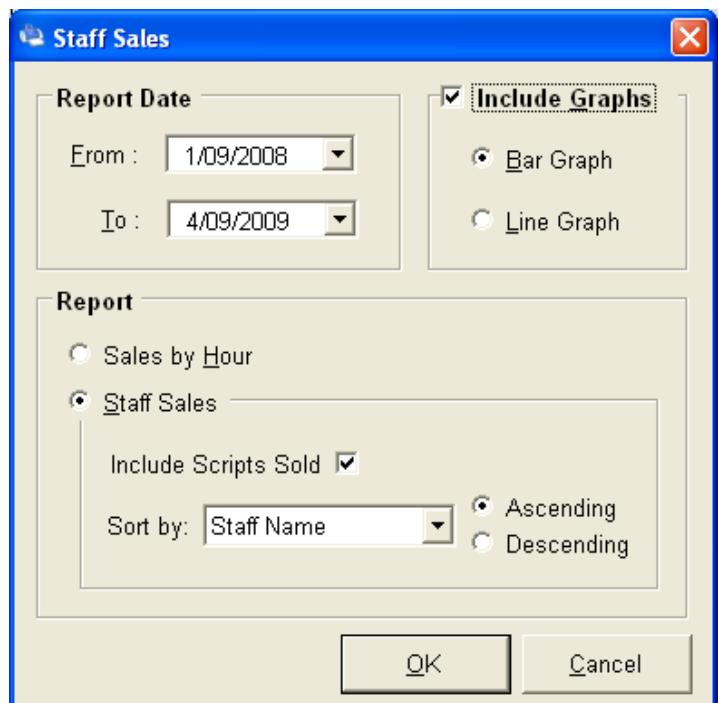

Figure 354
2. This will display the 'Hourly Sales' window (see Figure 354).
- **Sort by** – You can now choose how you wish the report to be sorted. This option allows you to select one of seven fields to sort by as well as allowing the report to be sorted in 'Ascending' or 'Descending' order. The default is 'Staff Name' and 'Ascending' (as shown in Figure 354).